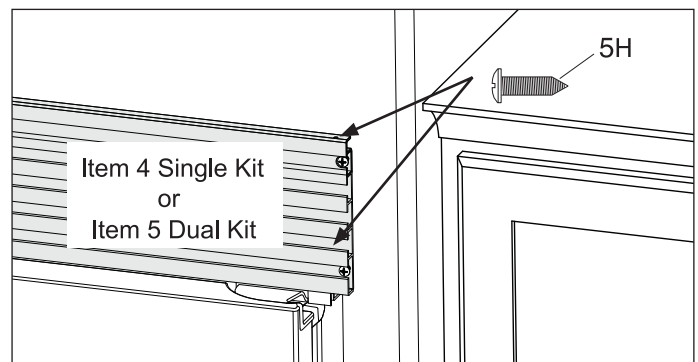

Figure 2-26.
- a. Slide units into place. Adjust height so top trim height reaches 79.09" (2009mm). Center units in opening and level. (See Figure 2-26)
- b. Drill 1/8" pilot holes and fasten two (2) screws per side with a phillips driver to kitchen cabinets.